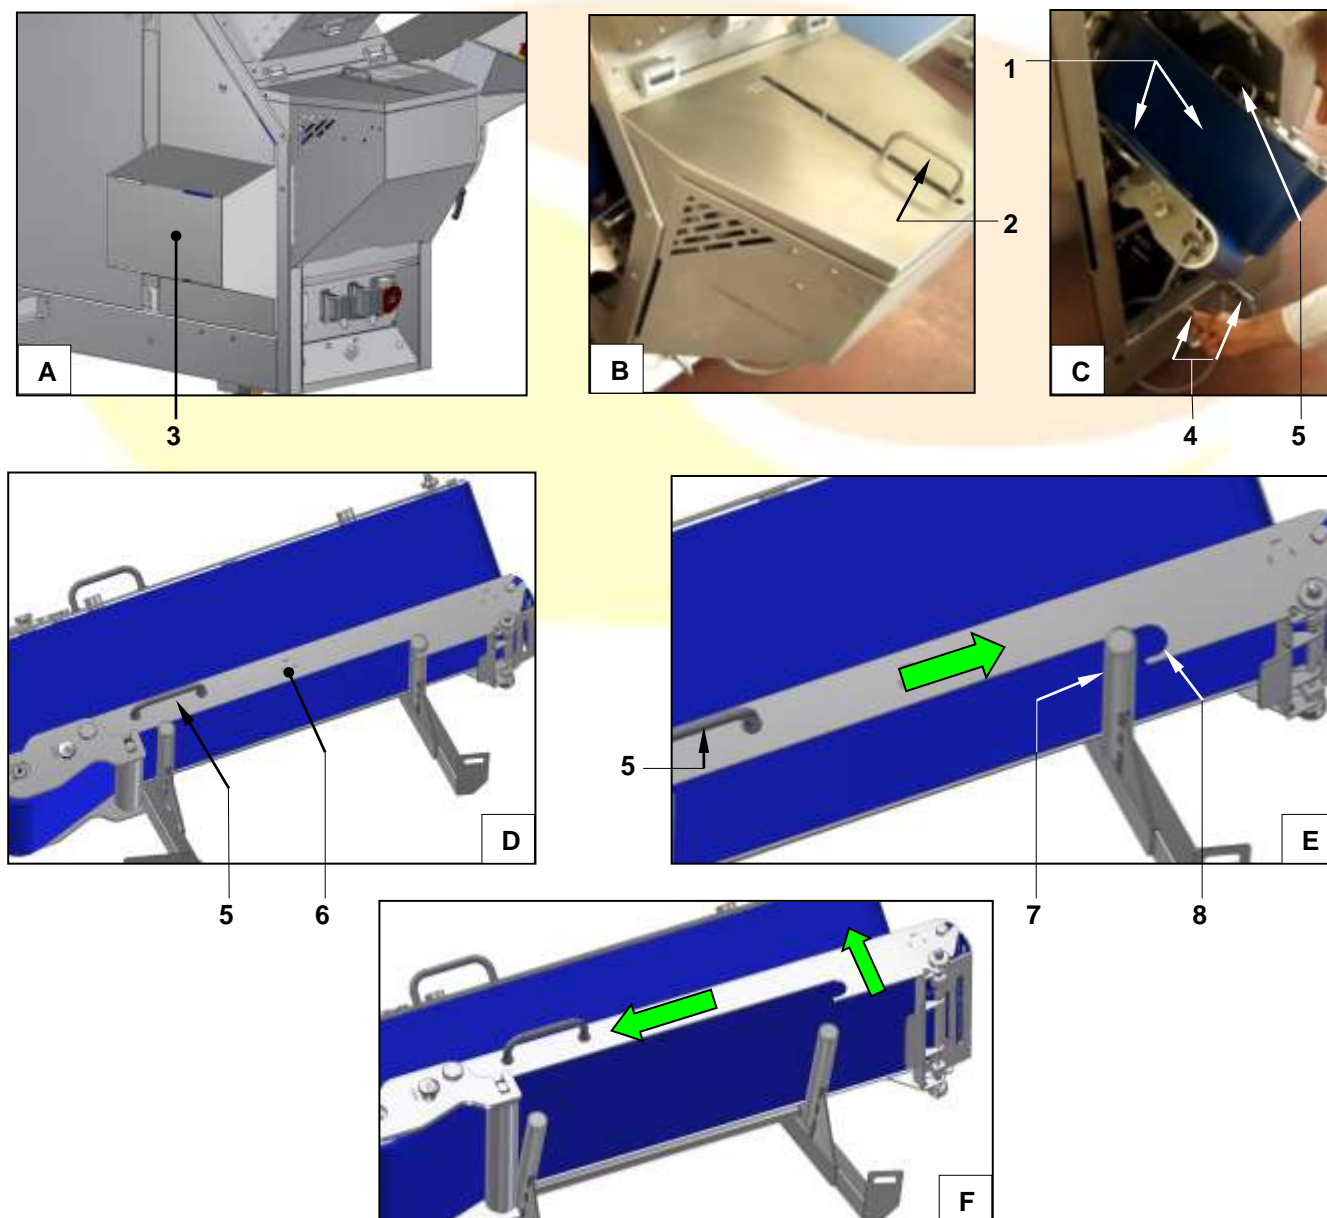

Figure 16 – Disassembling the «V» belts
With reference to Figure 16, for disassembling the belts ref. 1:
1. If present (optional) turn the handle ref. 2 (Figure B) that moves the dividing rollers all the way back.
2. Disassemble the side casing ref. 3 on the side opposite the product output, after having opened the locks with the special keys (par. 4.4.4)
3. Disconnect both connectors ref. 4 (completely unscrew the locknut that fixes them and remove them)
4. Grab the handle ref. 5, push the structure ref. 6 of the belt a bit forward to free the pin ref. 7 from the housing ref. 8, then, always leaving it resting downward, turn it slightly toward the inside of the «V» until it is in a vertical position.
5. Always gripping the handle ref. 5, pull out the belt, supporting it underneath with your other hand.